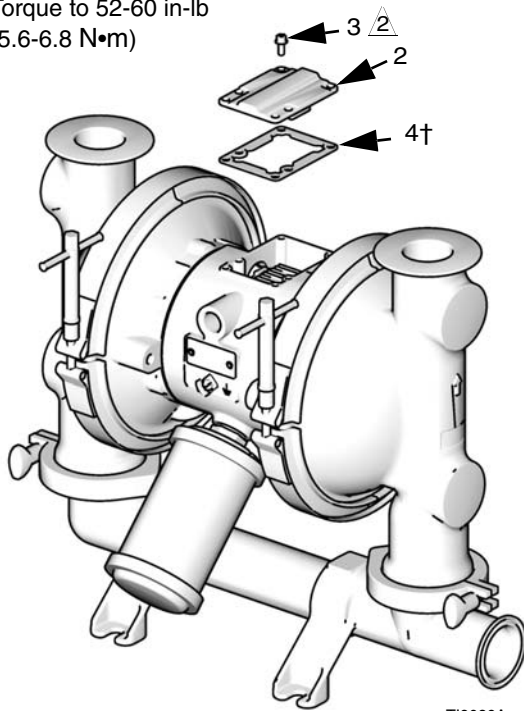

FIG. 5
2. With a Torx (T20) screwdriver or 7 mm (9/32 in.) socket wrench, remove the six screws (3), air valve cover (2), and gasket (4). See FIG. 5.
9. Align the valve gasket (4†) and cover (2) with the six holes in the center housing (1). Secure with six screws (3†), using a Torx (T20) screwdriver or 7 mm (9/32 in.) socket wrench. Torque to 52-60 in-lb (5.6-6.8 N•m). See FIG. 5.